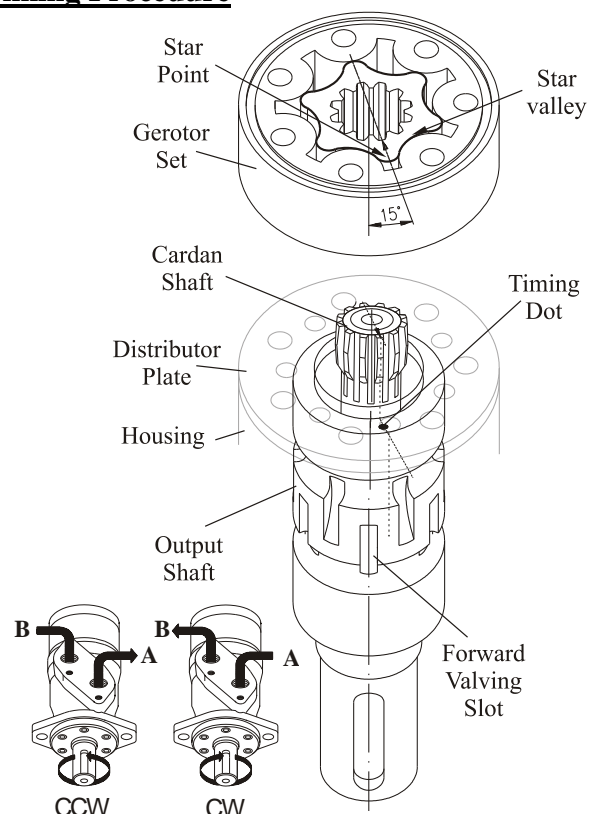

Fig.9
17. Place gerotor set on distributor plate and align any star point with marked tooth on cardan shaft. Stepped bolt holes are facing with smallest diameter to the distributor plate (see Fig.9)
Reverse rotation is obtained by aligning any star valley with marked tooth on cardan shaft (see Fig 9).